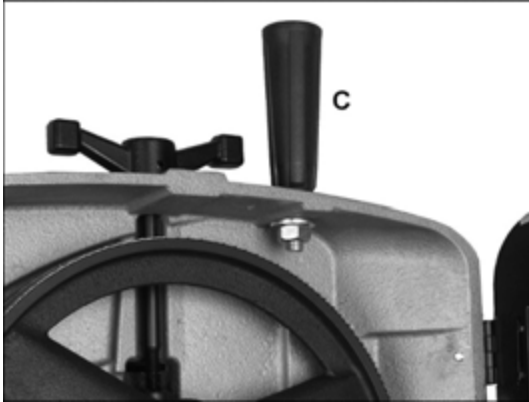
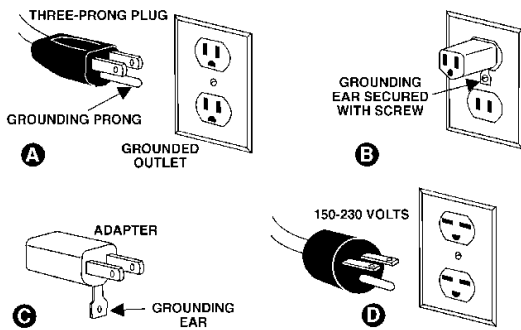

Figure 6-5: Installing Handle
Figure 7-1: Grounding
4. Install handle with flat washers and nut (C, Figure 6-5), using 19mm wrench. To install, raise bow to vertical position and open guard. **CAUTION:** Spring-tensioned stop bracket (see Figure 7-1) must be rotated out of the way before raising bow.
This band saw is rated at 115/230V power and is pre-wired for 115 volts. The machine has a plug to be used on a circuit with a *grounded outlet* that looks like the one pictured in **A**, Figure 7-1.
When operated at **115-volt**, this tool is intended for use on a circuit that has an outlet that looks like the one illustrated in **A**, Figure 7-1. An adapter, shown in **B** and **C** is not recommended. Provide a properly grounded outlet (A) installed by a qualified electrician. **Note:** In Canada, the use of a temporary adaptor is not permitted by the Canadian Electrical Code, C22.1.
When operated at **230-volt**, this tool is intended for use on a circuit that has an outlet that looks like the one illustrated in **D**, Figure 7-1. The tool has a grounding plug that looks like the plug illustrated in **D**. Make sure the tool is connected to an outlet having the same configuration as the plug. No adapter is available or should be used with this tool. If the tool must be reconnected for use on a different type of electric circuit, the reconnection should be made by qualified service personnel; and after reconnection, the tool should comply with all local codes and ordinances.